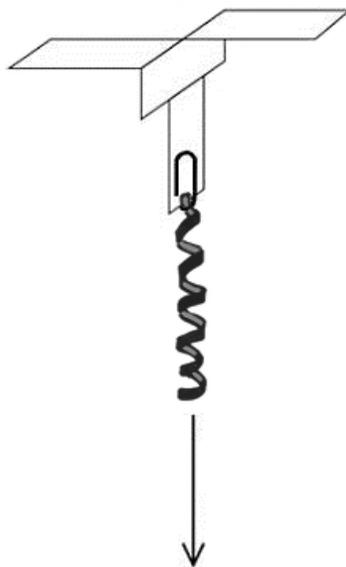

Figure 1. Whirligig with ribbon
3. To count the number of rotations, tape a ribbon to the whirligig (Figure 1). Stand on the loose end of the ribbon and raise the whirligig to its maximum height. Make sure there are no twists in the ribbon. Drop the whirligig. How does the ribbon make counting the number of rotations easier? How can you change the drop height?